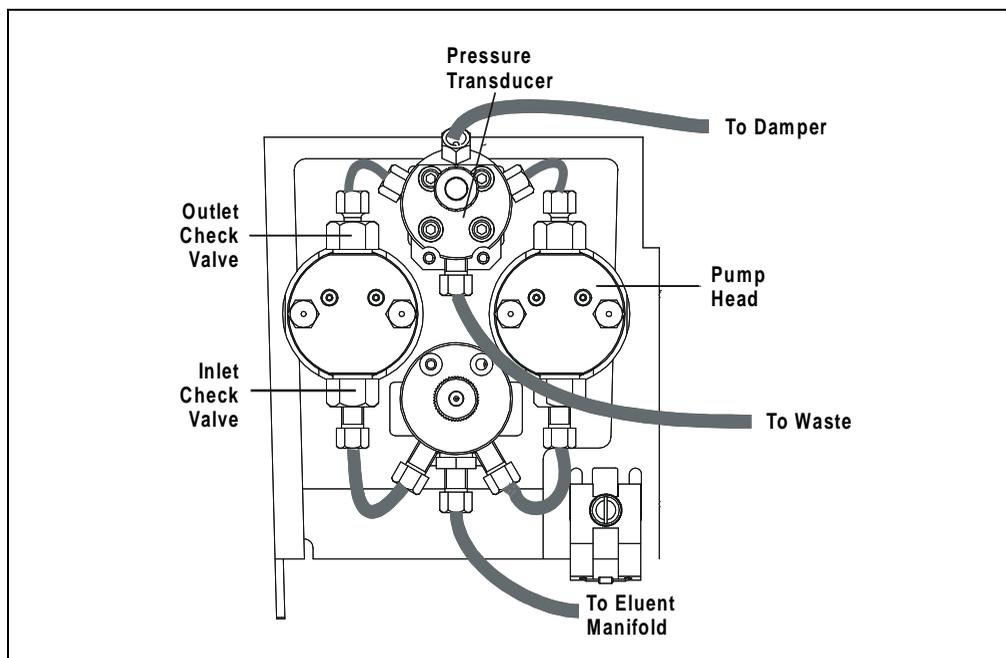

Figure 5-1. Pump Heads and Liquid Lines
3. Disconnect the tube fittings from the inlet and outlet check valve housings (see Figure 5-1).
2. Disconnect the tube fittings from the pressure transducer and the inlet check valve (see Figure 5-1).